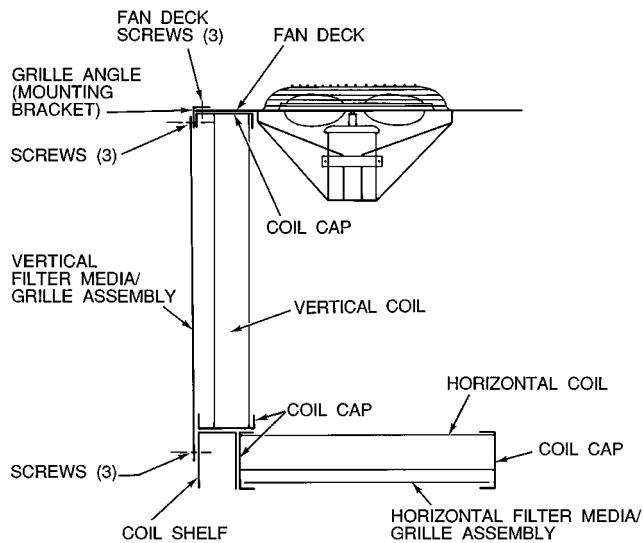

Fig. 4 — Filter Media/Grille Mounting Locations
4. With the media on each media/grille assembly facing out, mount the hooks on the top of each assembly on a grille angle with 3 of the supplied screws. See Fig. 4.
To avoid damage to vertical or horizontal coils, do not drill pilot holes at an angle or deeper than 1-in. through the front of the shelf. See Fig. 4.
5. Using the hooks at the bottom of each media/grille assembly as guides, drill pilot holes in the coil shelf and attach the bottom 3 hooks in each assembly with the screws supplied. See Fig. 4.
2. With the media facing down, insert each media/grille assembly in the channel underneath each horizontal coil section. The assembly is wider than the channel opening and must be flexed for insertion. See Fig. 4.